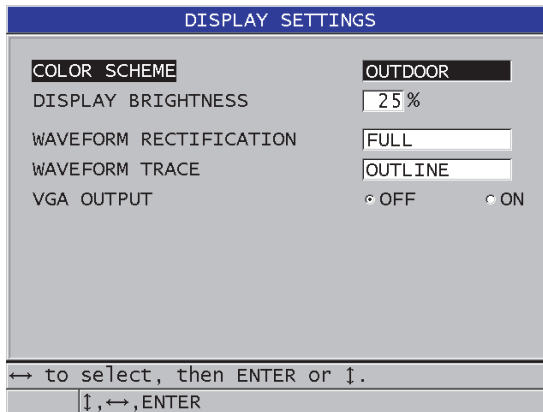

Figure 4-3 The **DISPLAY SETTINGS** screen
2. In the **DISPLAY SETTINGS** screen (see Figure 4-3 on page 68), select the desired parameter and value for the following parameters: